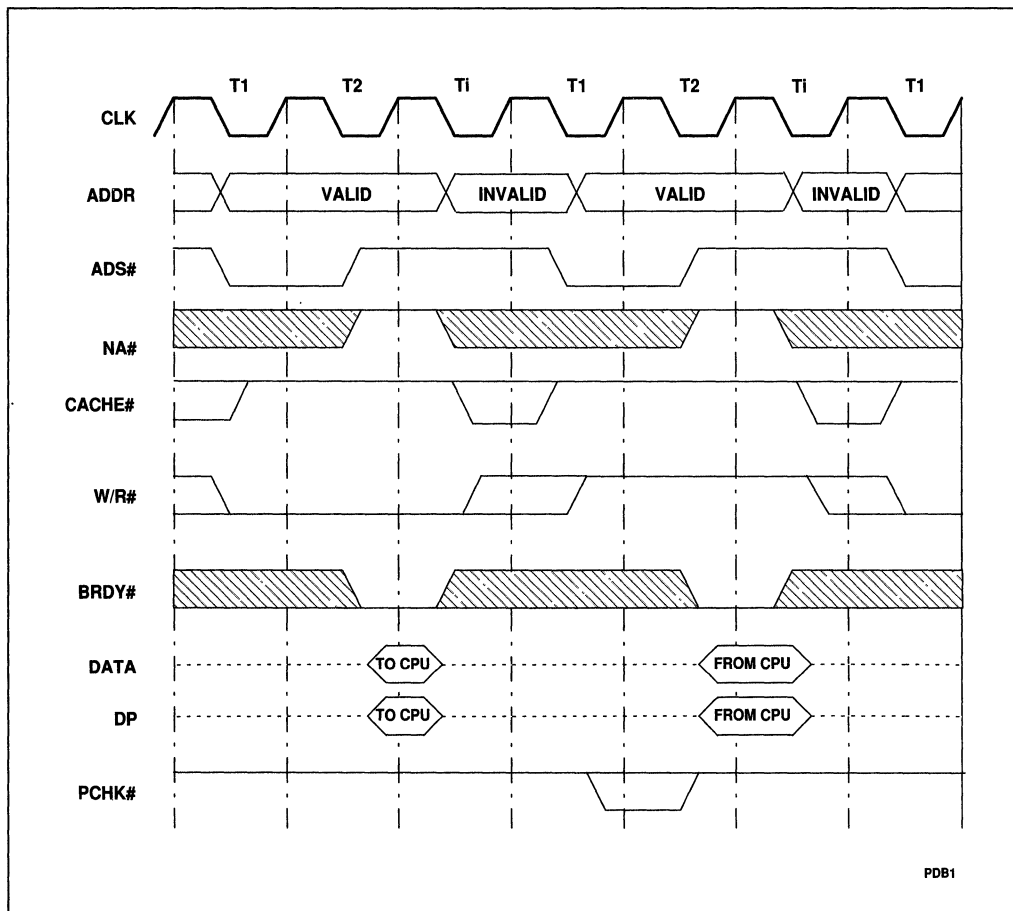

Figure 12-2. Data Parity During a Read and Write Cycle
Even data parity is driven on the DP7-DP0 pins in the same clock as the data bus during all Pentium processor initiated data write cycles. During reads, even parity information may be driven back to the Pentium processor on the data parity pins along with the data being returned. Parity status for data sampled is driven on the PCHK# pin two clocks after the data is returned. PCHK# is driven low if a data parity error was detected, otherwise it is driven high. The PCHK# pin will be asserted for one clock for each clock a parity error is detected and may be latched by the system. The PCHK# pin is a glitch free signal, so no spurious assertions of PCHK# will occur. Figure 12-2 shows when the data parity (DP) pins are driven/sampled and when the PCHK# pin is driven. For additional timing diagrams that show data parity, see the Bus Functional Description chapter.